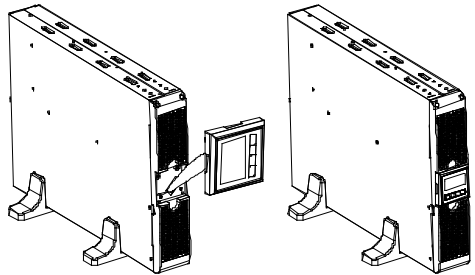

Fig 3
3. Pull out the LCD box and rotate it in a clockwise direction to 90 degree and then push it back in the front panel (Fig 3).